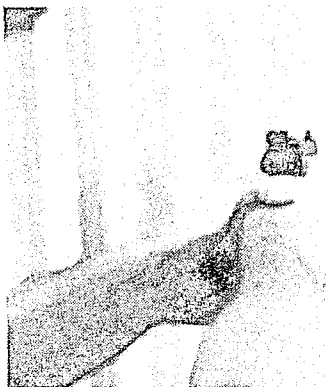

Figure 6-11
(See Figure 6-11)
- c. Keep the wrist straight and locked. (See Figures 6-11 and 6-12)